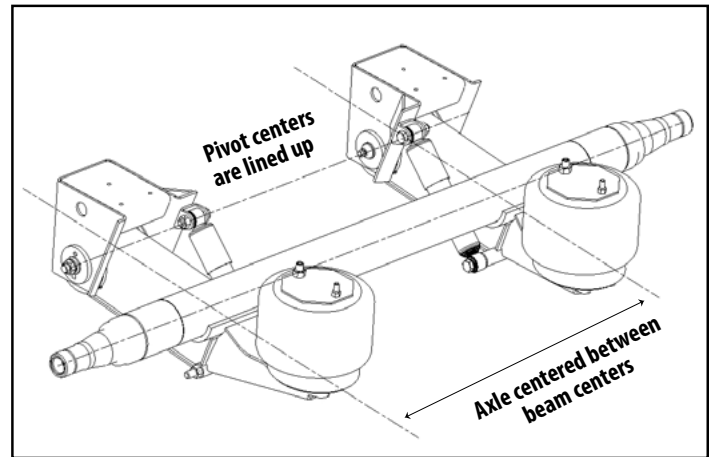

Figure 3.
1. Center the axle assembly on the beam centers (Figure 3).